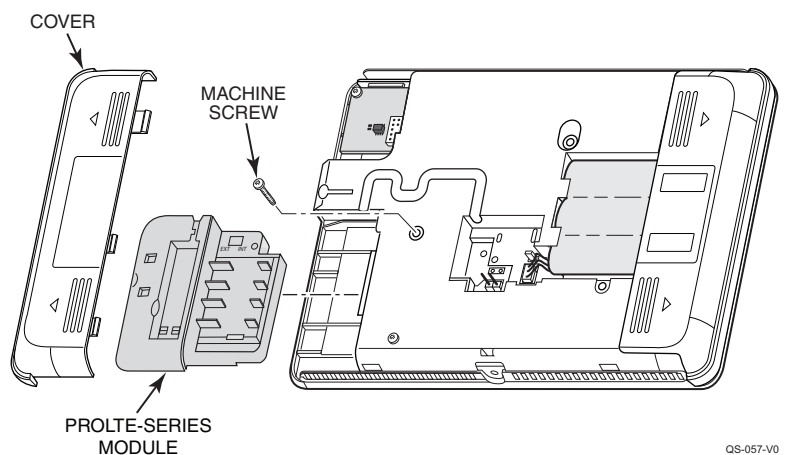

Figure 2. Installing the PROLTE Module
8. Insert the PROLTE Series module into the slot on the left side of the control as shown in Figure 2 and ensure the receptacle is securely seated on the control's edge connector.